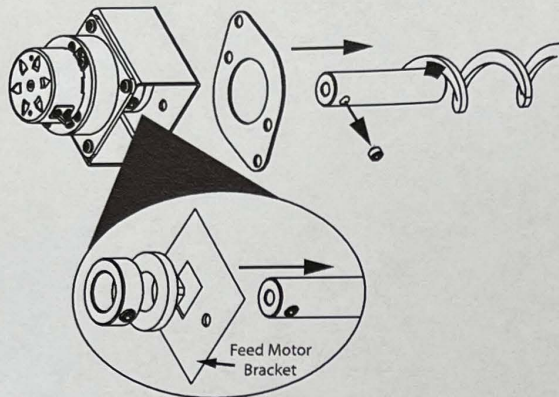

Figure 7
7. Using a 5/32 inch Allen wrench and back out the 5/16-18 x 1/4 inch Set Screw (C3) until the top of the set screw is flush with the outside of the shaft of the Feed Motor Spring (C1) (Figure 7).